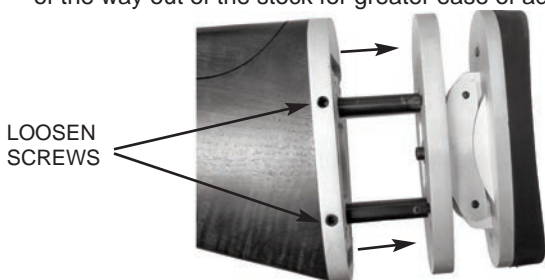

Figure 14
1. To remove the recoil pad from the stock, insert the black allen wrench provided with the firearm into the left side of the lower plate of the recoil pad. Loosen the screws counter-clockwise, roughly two turns. **Do not remove screws completely.** This will allow you to slide the recoil pad all of the way out of the stock for greater ease of adjustments (Figure 14).